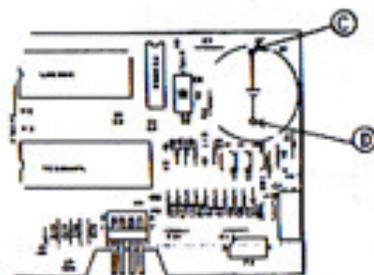

Figure 10-11
(d). Put the new battery into hole (C) and (D) in figure 10-11) and solder it.